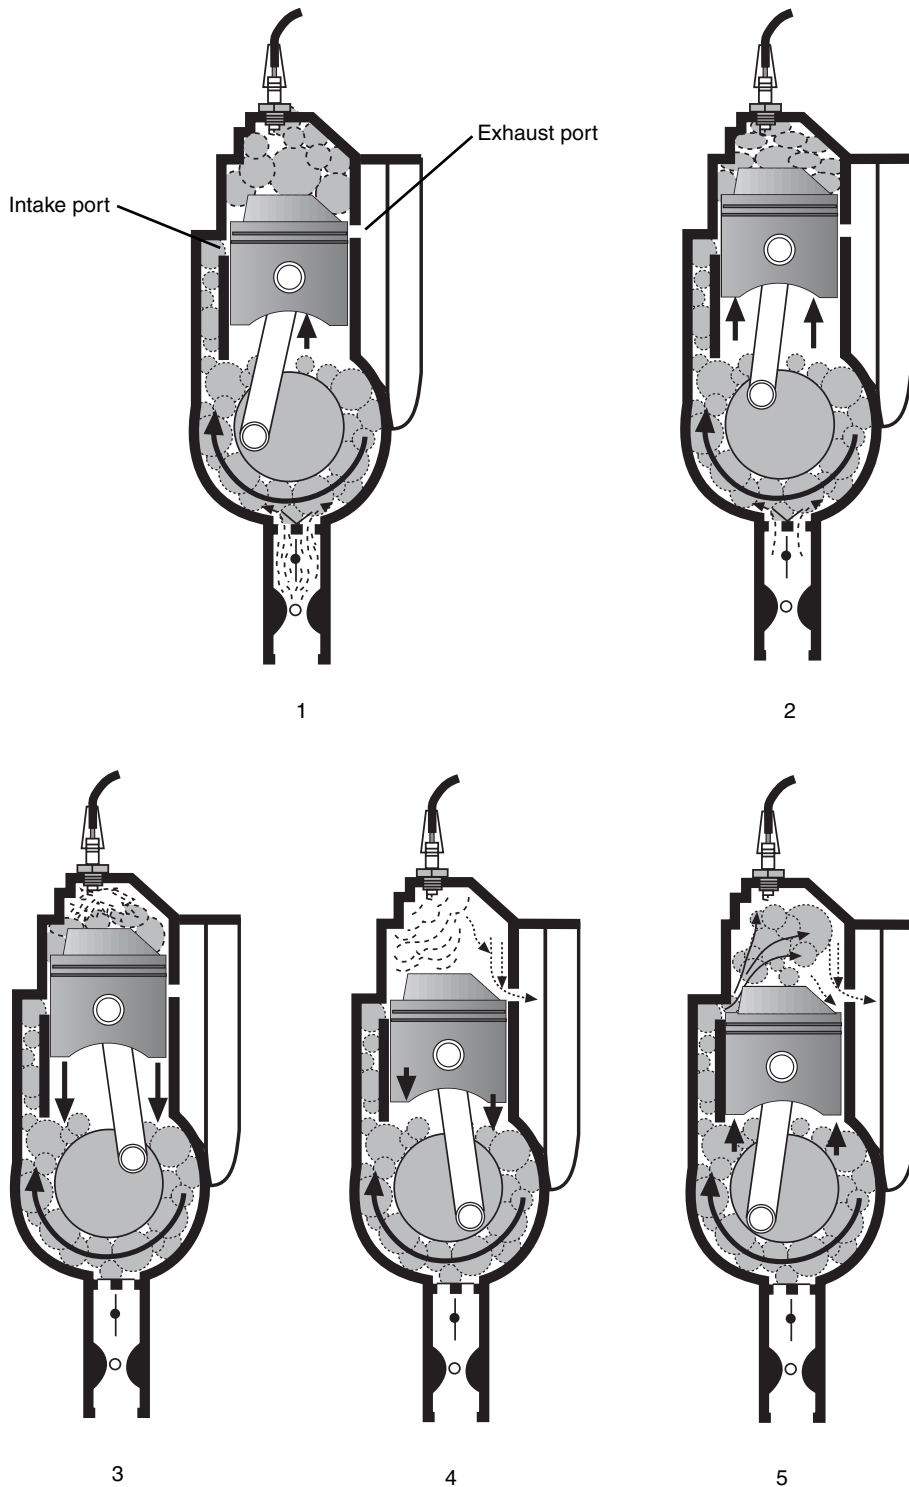

Figure 1-4. The two-stroke cycle illustrated. See text.
**The Two-Stroke.** Figure 1-4 depicts the two-stroke cycle. The significant difference here is the absence of conventional intake and exhaust valves. In fact, there are valves in a purely technical sense: The moving pistons alternately reveal and cover up ports (holes) in the cylinder wall, thus acting as valves. The ports are the means of gas entry and exit from the combustion chamber.
Let's look at the sequence of events in Figure 1-4.